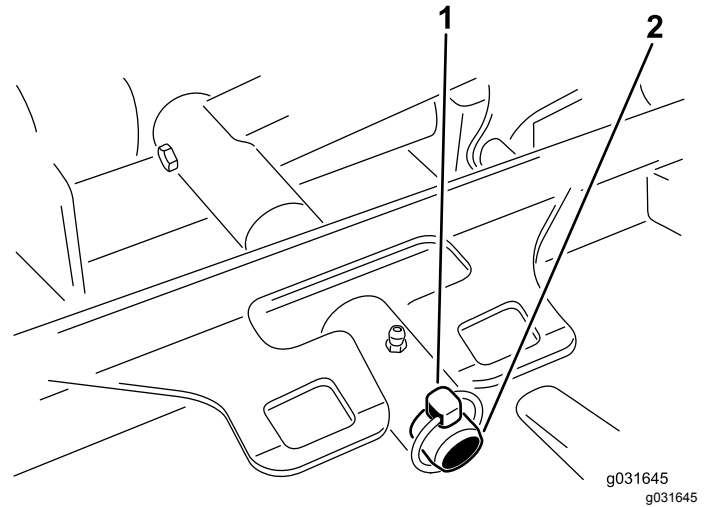

Figure 63
3. Remove the lynch pin or retaining nut securing the cutting unit carrier frame to the lift-arm-pivot pin (Figure 63).
3. Slide the cutting unit carrier frame onto the lift-arm-pivot pin and secure it with the lynch pin or retaining nut (Figure 63).